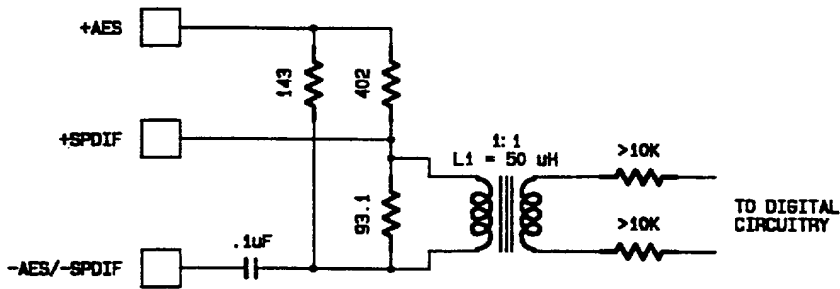
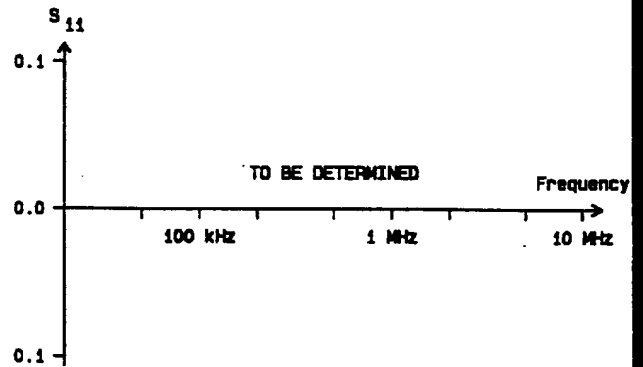
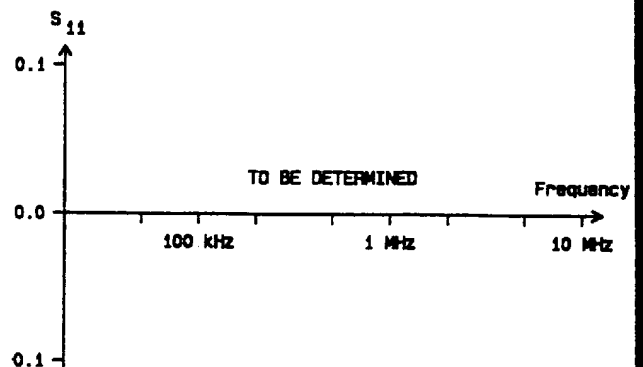

Fig. 2 INPUT STAGE SCHEMATIC
Fig. 3 AES INPUT REFLECTION COEFFICIENT IN A 110 OHM TRANSMISSION LINE
Fig. 4 SPDIF INPUT REFLECTION COEFFICIENT IN A 75 OHM TRANSMISSION LINE
**SPECIFICATIONS****AES INPUT (refer to Fig. 2)**
Differential impedance	110 Ohm (refer to Fig. 3)
Differential impedance	75 Ohm (refer to Fig. 4)
The isolation input stage is best described by Fig. 2. The AES input is transformer isolated, with a 110 Ohm differential impedance practically independent of frequency (refer to Fig. 3). The SPDIF input is also transformer isolated, with a 75 ohm differential impedance almost independent of frequency (refer to Fig. 4). The transformer capacitance (primary to secondary) is specified to be less than 4 pF.